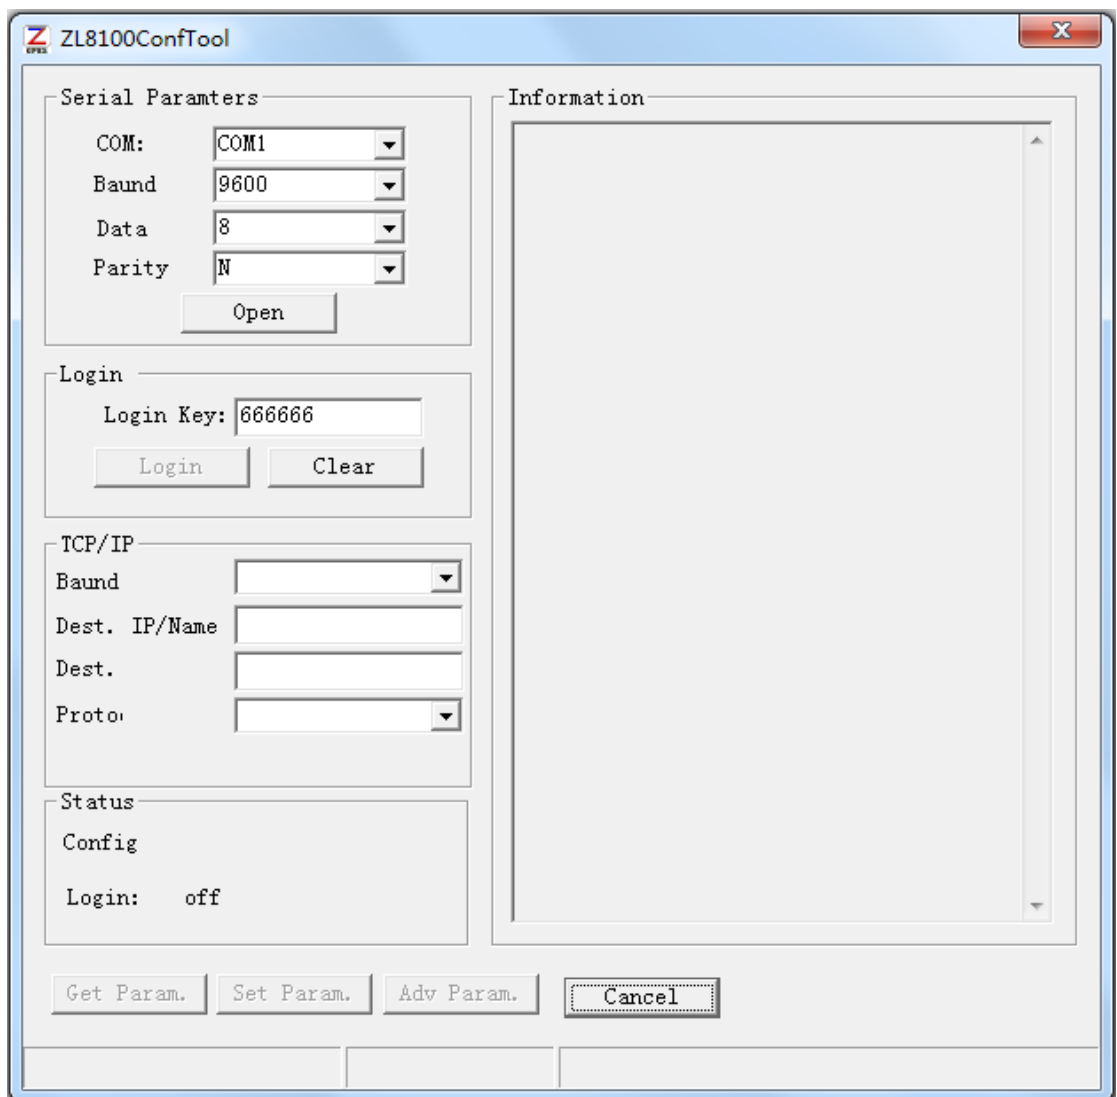

Figure 4 Configuration Tool
- i. Open the software first, as shown in FIG. 4 configuration tool.